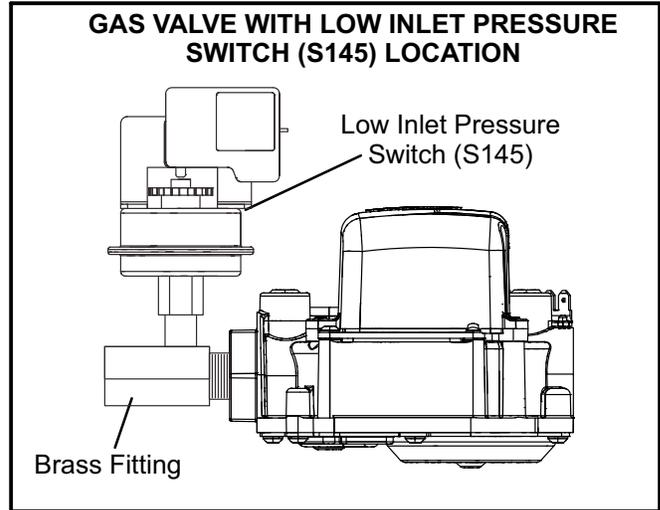

FIGURE 2
- 8 - Thread provided brass fitting to gas valve inlet until hand tight. Using properly sized wrench, tighten fitting 2 to 3 full turns being careful to position the side port to allow clearance for the pressure switch and harness. See figure 2.
**NOTE** - Some installations may require the pressure switch and fitting assembly to be positioned differently than shown in figure 2.
When testing supply gas pressure, use the 1/8" N.P.T. supply line tap located on the gas valve to facilitate test gauge connection. See figure 2. Check gas line pressure with unit firing at maximum rate. Low pressure may result in erratic operation or underfire. High pressure can result in permanent damage to gas valve or overfire.